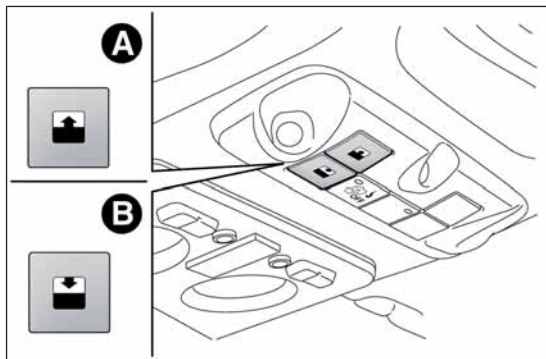

fig. 54
The sun roof can be operated only with the ignition key turned to MAR. The controls A and B fig. 54 on the trim next to the front courtesy light operate the sun roof opening/closing functions.
Pressing button A fig. 54 permits two opening modes for the front glass panel.
Pressing button B fig. 54 permits two closing modes for the front glass panel.
- ☐ press button B fig. 54 until the roof is completely closed. Release the button;